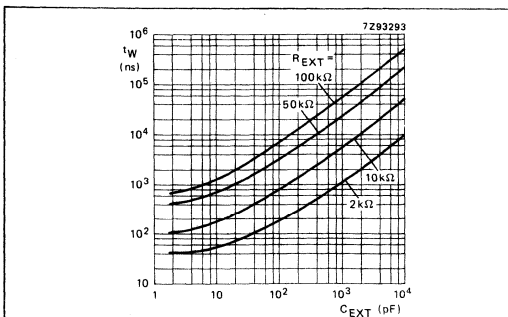

Fig. 9 Typical output pulse width as a function of the external capacitor values at  $V_{CC} = 5.0$  V and  $T_{amb} = 25$  °C.
An internal connection from  $n\bar{R}_D$  to the input gates makes it possible to trigger the circuit by a positive-going signal at input  $n\bar{R}_D$  as shown in the function table. Figures 7 and 8 illustrate pulse control by retriggering and early reset. The basic output pulse width is essentially determined by the values of the external timing components  $R_{EXT}$  and  $C_{EXT}$ . For pulse widths, when  $C_{EXT} < 10\,000\text{ pF}$ , see Fig. 9.
1. For other  $R_{EXT}$  and  $C_{EXT}$  combinations see Fig. 9.